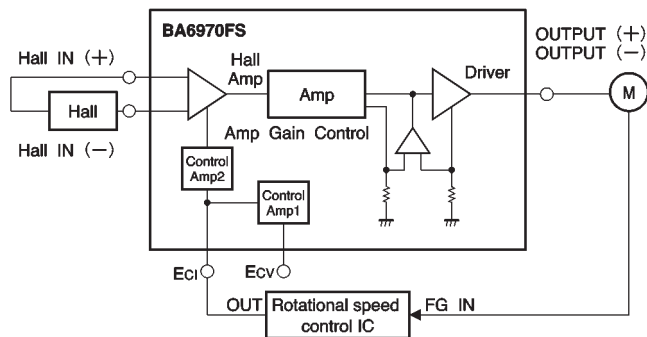

Fig.6
(1) The signal from the Hall device is amplified by the Hall amplifier and then supplied to the driver circuit. The driver gain, which is constant, is regulated by changing the Hall amplifier gain with the E_{Cl} input current or the E_{Cv} input voltage (E_{Cl} and E_{Cv} are output current control pins). The motor rotational speed is sensed by the FG, and the output from which is F / I-converted and supplied to the E_{Cl} pin or F / V-converted and supplied to the E_{Cv} pin as a feedback signal, so that a constant rotational speed is maintained as follows (Fig. 6) :